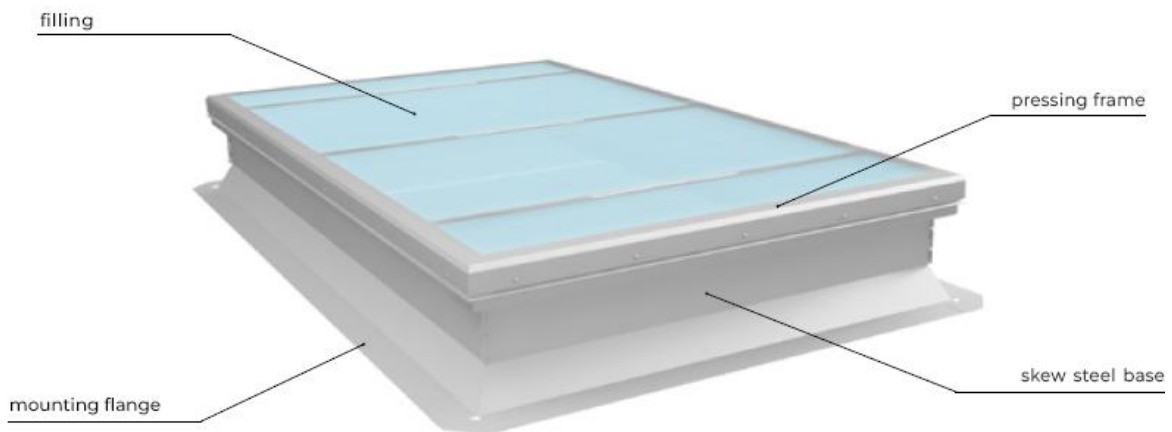
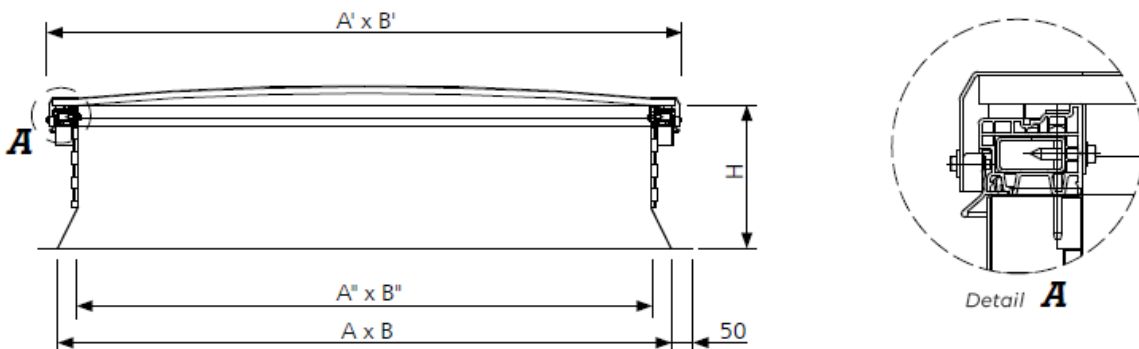

Fig. 5. Fixed skylight mcr ULTRA THERM FIX type with skew steel base and pressing frame.
Fig. 6. Cross-section through fixed skylight of mcr ULTRA THERM FIX type with skew steel base and pressing frame.
- c) with a metal base* and a pressing frame (the FIX skylight) → see Fig. 5, Fig. 6.